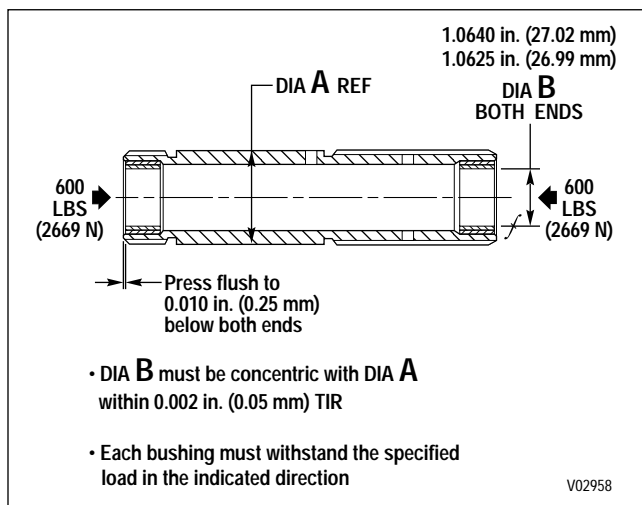
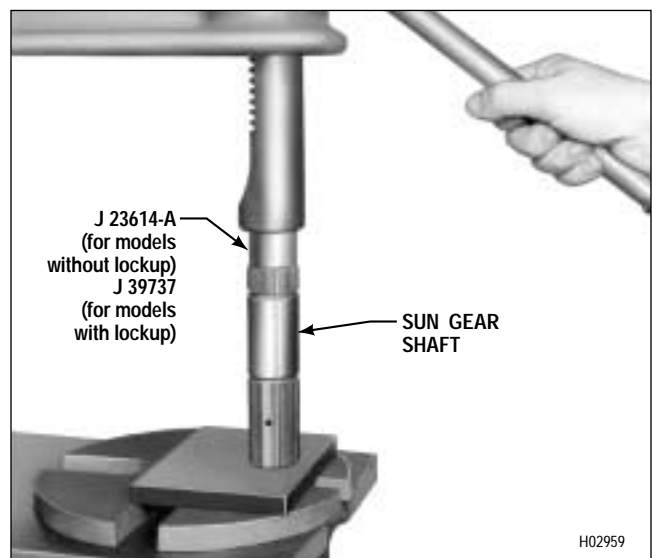

Figure 6-53. Sun Gear Shaft and Bushings
Figure 6-54. Installing Sun Gear Shaft Bushing
(3) If bushings 2 were removed from sun gear shaft 3, install new bushings, following the specifications in Figure 6-53. Bushing installer tool J 23614-A (for models without lockup) or J 39737 (for models with lockup) can be used (Figure 6-54).